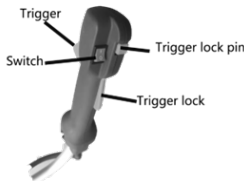

FIG.13
2. Turn the engine switch to the "I" position. (Fig.13) Press the throttle trigger, throttle trigger lockout and lock pin together to lock the trigger .